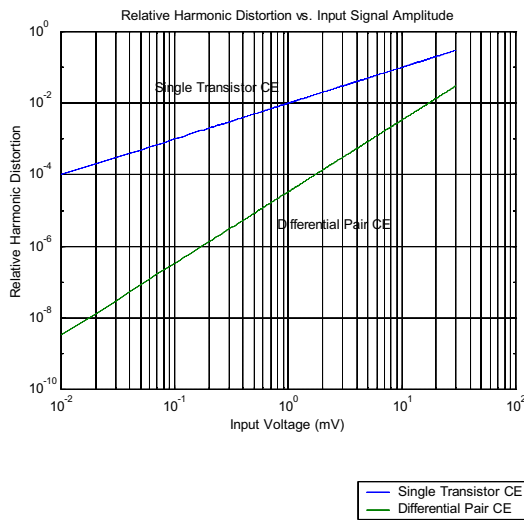

Fig. 2 Relative harmonic distortion vs. input voltage for the three CE amplifiers of Fig. 1. Graph applies at room temperature.
Examination of (6), (12) and (15) shows that the relative distortion level is a function of the input signal level being applied to Fig. 1(a), (b) or (c), but that it is independent of the voltage gain being obtained. (The voltage gain can be adjusted by changing I and/or R .) Fig. 2 is a plot of total harmonic distortion vs. input signal amplitude for the single-transistor CE and the differential pair CE amplifiers at room temperature. As a point of reference, it could be noted that for the single transistor amplifier, about 5 mV of input signal results in a relative distortion level of 0.05 (5%), while for the differential pair the 5% distortion level occurs with an input signal of 39 mV.